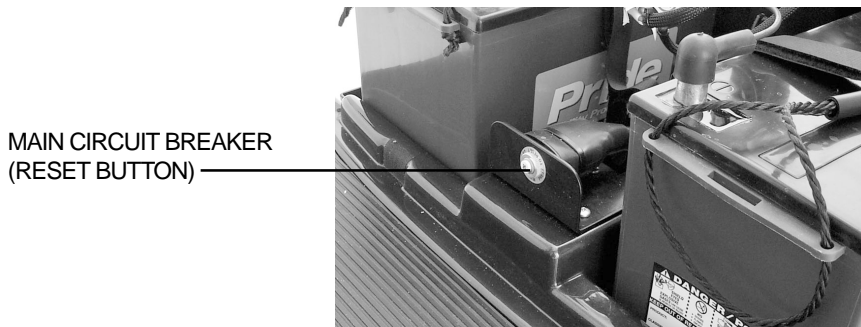

Figure 13. Rear Section
- The main circuit breaker reset button is located at the foremost part of the rear section. See figure 13.